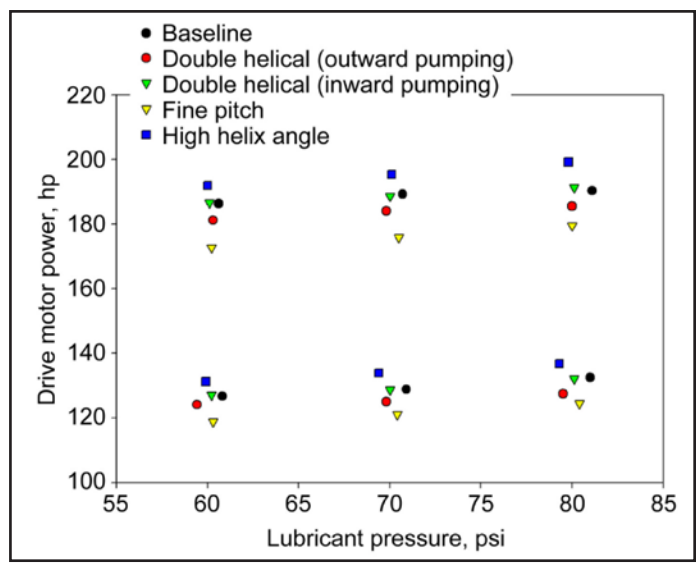
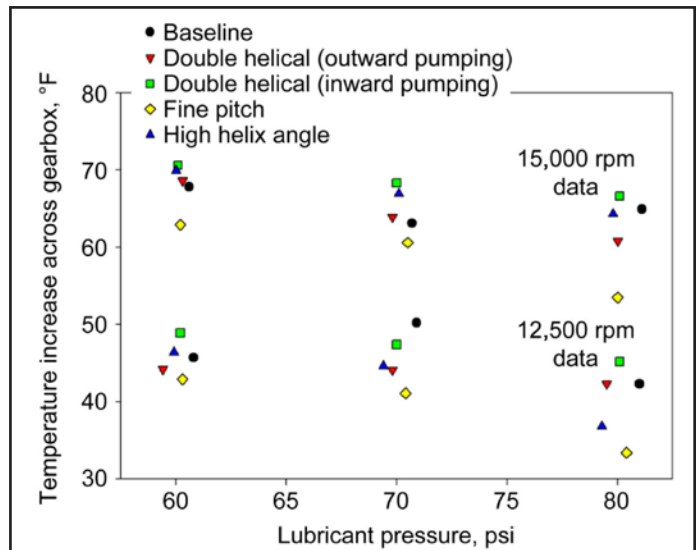

Figure 16 Lubricant pressure effects on drive motor power requirements; shrouded gears, ~19,000 in.\*lb torque, 200°F oil inlet temperature.
Figure 17 Lubricant pressure effects on temperature increase across the test gearbox, 200°F oil inlet temperature.
**Lubrication jet pressure tests.** Three lubricant jet pressure (flow rate) conditions are shown for the two speed conditions and one level of applied load (~33 percent of full torque). The drive motor power required is shown in Figure 16 and the lubricant temperature increase across the gearbox (exit temperature minus inlet temperature) is shown (Fig. 17). In either figure the lower symbol for a given design is the 12,500 rpm data and upper symbol is the 15,000 rpm data. As would be expected, higher flow rate of lubricant reduced the temperature change, but higher jet pressure (flow) increased the power loss for all conditions. The fine pitch design had the lowest drive motor required (note fine pitch gears were installed in both the test and slave gearbox) and minimum temperature increase for any rotational speed or loop torque requirement.